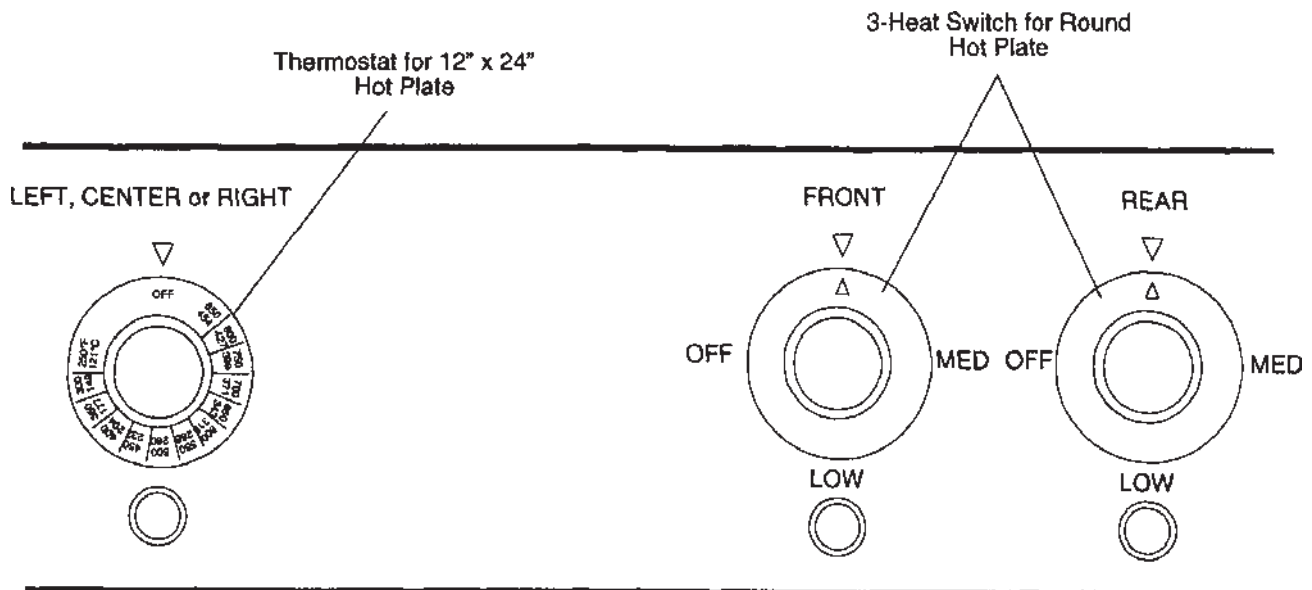

Figure 3-5
2. 12" x 24" Hot Plate is controlled by a Temperature Thermostat Control (see Figure 3-5) adjustable from 250°F to 850°F (121°C to 455°C). The 12" x 24" hot plate will preheat to 400°F (204°C) in 12 minutes. Adjacent green light remains on while heating elements are energized and griddle is coming up to set temperature.